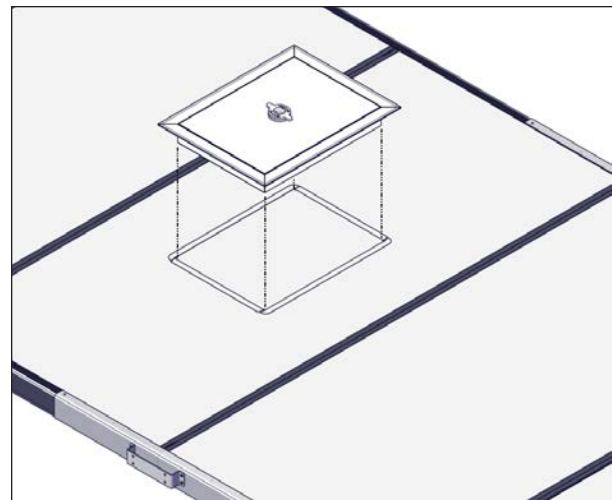

FIGURE 70: ESCAPE HATCH INSTALLATION
2. Turn the escape hatch handle to retract the arms and install it into the escape hatch opening of the center panel, see Figure 70.